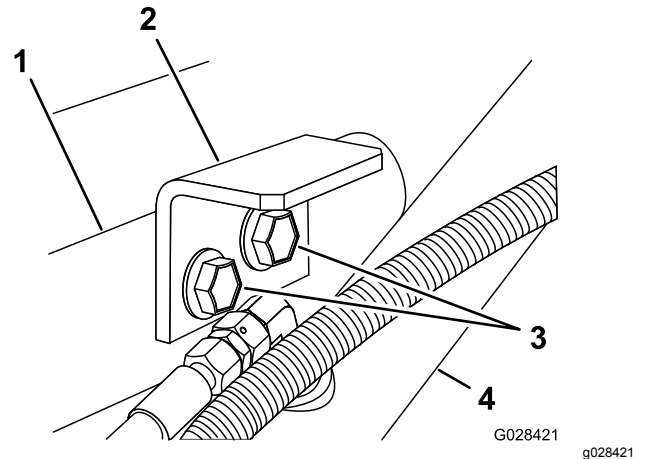

Figure 7
3. Assemble the hold-down brackets to support bracket and frame the using the 2 flange-head bolts and flange locknuts removed in step 1 (Figure 7).